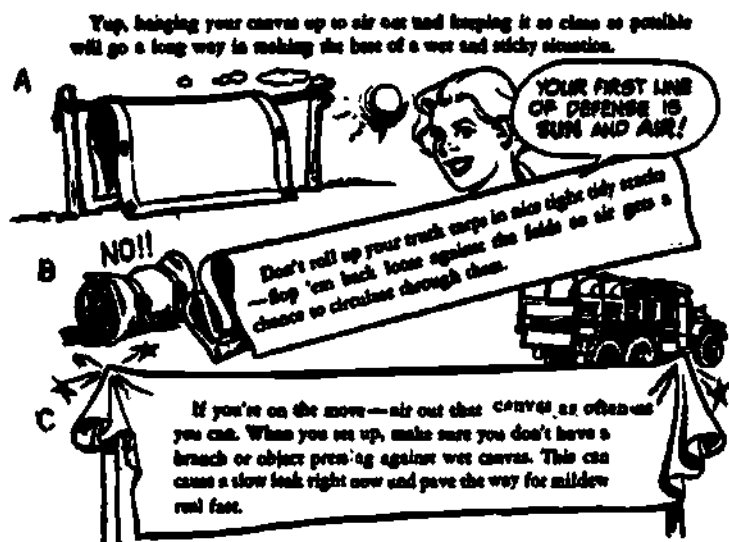

Fig 2-90. Fighting mildew.
- Our biggest enemy, when it comes to canvas, is mildew. Mildew can be prevented if canvas is kept clean and dry. This is sometimes hard to do, but we can still win the battle if we keep a few things in mind. Mildew thrives on a combination of heat, dirt, and water, so you can see that canvas doesn't stand much of a chance unless we give it plenty of help. Keeping canvas clean and exposing it to air and sunlight are the two biggest factors used to fight mildew. Air canvas as much as possible. When airing out, use a method such as the illustrated in A, figure 2-90. If at all possible, do not roll canvas tightly, because you will be helping mildew (B, fig 2-90). We realize that canvas does have to be rolled or folded at times, but you should never fold or roll wet canvas or leave it that way for any length of time. Hanging canvas out to dry as shown in figure C, figure 2-90 is dead wrong!